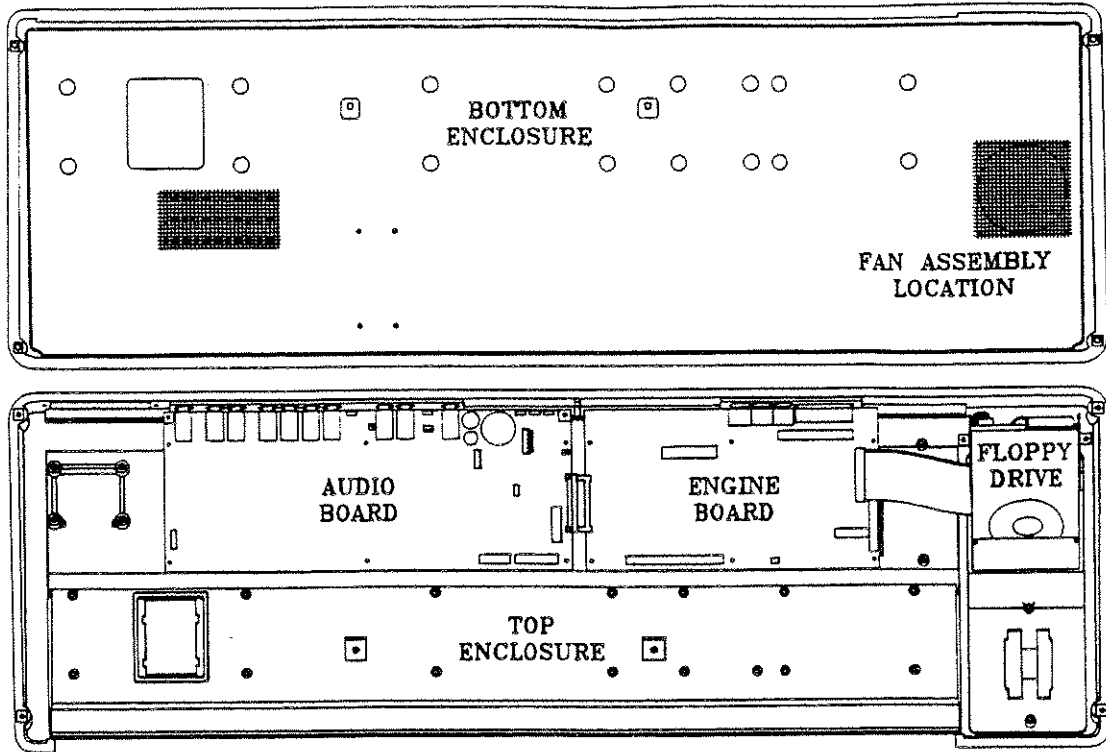
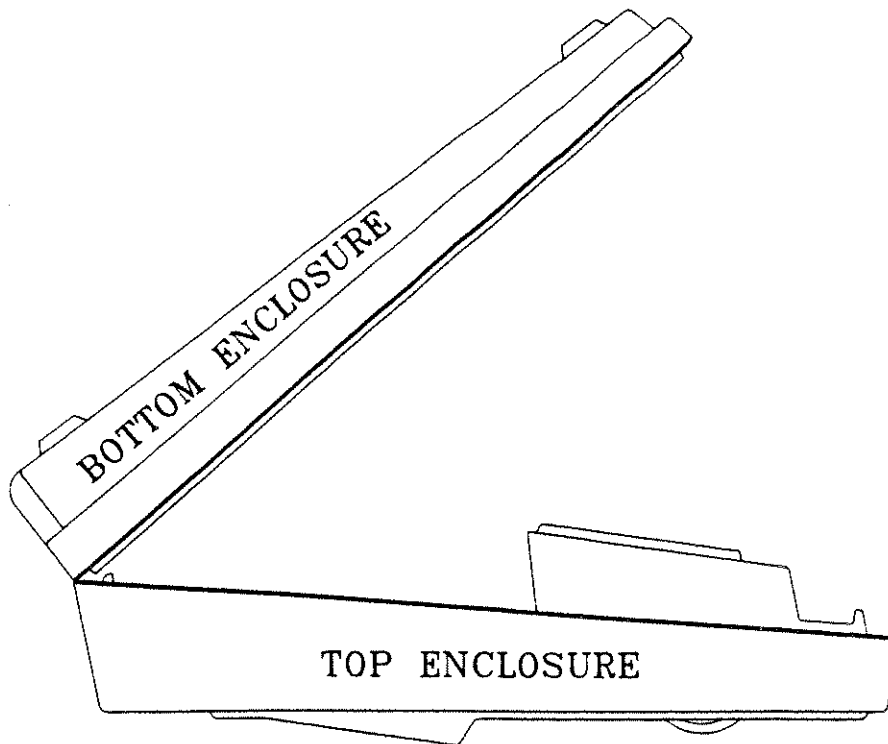

FIGURE 1
FIGURE 4
4. Lift the edge of the bottom enclosure that is closest to you. See figure 1. If the fan kit has already been installed, be sure to disconnect the fan/hard disk drive power cable from the K2000's audio board before removing the bottom enclosure completely. See figure 4. Be sure that there are no cables connected between the bottom and top enclosure. If there are any ribbon cables to be disconnected, make note of the orientation of the red boarder of the ribbon cable so you can reconnect it properly. Set the bottom enclosure aside.
14. Lift the bottom enclosure, place its back edge (the edge with the Kurzweil logo) on the back edge of the top enclosure and hold the unit partially open as shown in figure 4.